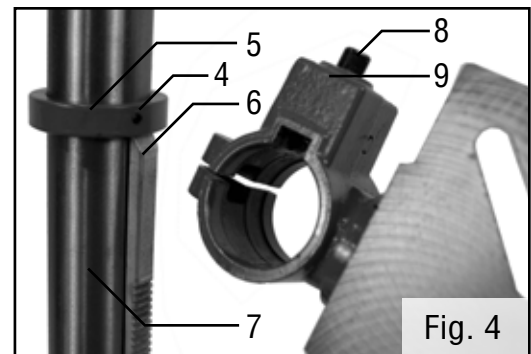

Fig. 4
ATTACHING TABLE TO COLUMN (FIG. 4)
1. Loosen the set screw (Fig. 4 - 4) in the rack collar (Fig. 4 - 5) and remove the collar from the column.
2. Remove the rack (Fig. 4 - 6) from the column (Fig. 4 - 7).
3. Insert the worm shaft (Fig. 4 - 8) into the hole of the table support crank handle (Fig. 4 - 9) from inside the table support. The worm shaft should extend outside the housing about 1" (25 mm).
4. Insert the rack (Fig. 4 - 6) into the geared groove of the table support (Fig. 4 - 9). Make sure the worm shaft (Fig. 4 - 8) on the inside of the table support is engaged with the teeth of the rack. The table support should sit at the center of the rack.
6. Place the collar (Fig. 4 - 5) bevel side down over the rack. Tighten the set screw (Fig. 4 - 4) with the 3 mm hex wrench to hold the rack in position.